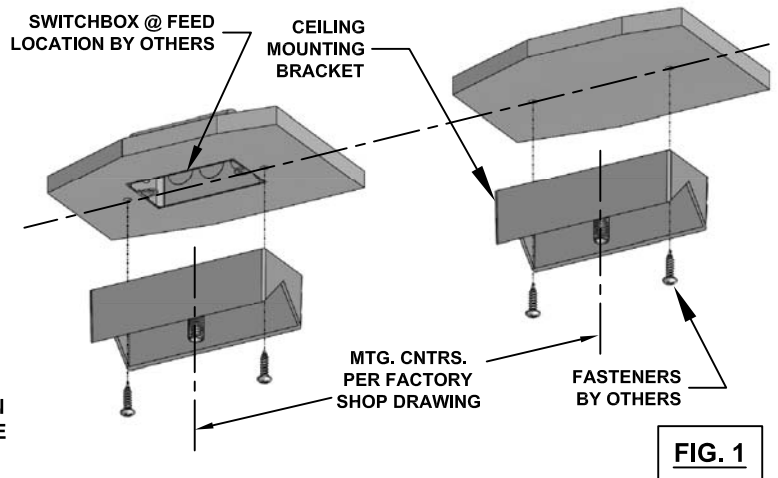

FIG. 1
USING CEILING MOUNTING BRACKET AS A TEMPLATE, CENTER BRACKET OVER HORIZONTALLY MOUNTED SWITCH BOX AND MARK (2) MOUNTING HOLES. USE STRAIGHT EDGE TO ALIGN MOUNTING BRACKETS. (FIG. 1) DRILL HOLES APPROPRIATE FOR MOUNTING SURFACE AND FASTENERS TO BE USED. PASS FIXTURE FEED WIRES THROUGH NIPPLE IN MOUNTING BRACKET AT FEED LOCATION AND SECURELY ATTACH MOUNTING BRACKET TO CEILING.